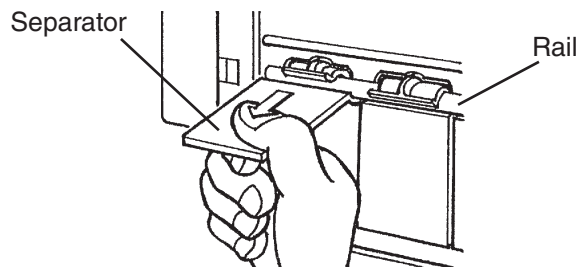

Fig. 47
- 16) Hook each separator onto the rail, then pull it hard towards you until it locks into place. See Fig. 47.